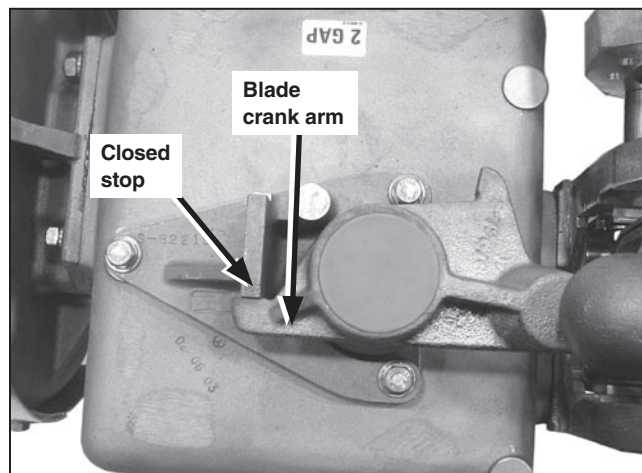

Figure 9. Top of brain, blade crank arm stop. Closed position.
- STEP 5.** Make sure there is no more than a 1/32-inch (0.8-mm) gap between each blade crank-arm and its associated blade crank-arm stop in the **Closed** position. See Figure 9.